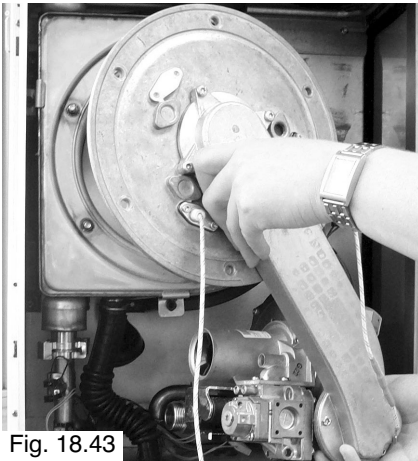

Fig. 18.43
2. Remove the air gas manifold as in step 18.4.2 (Fig. 18.43);